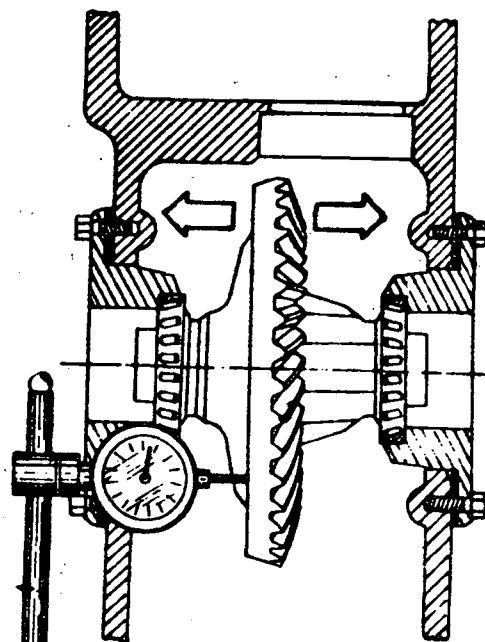

Fig. 4
- c) Measure the axial play with the dial guage (Fig. 4).